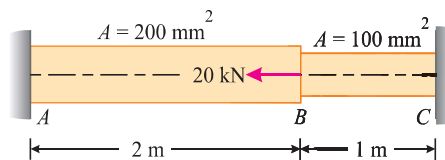

Fig. 4.8
2. A bar ABC fixed at both ends A and C is loaded by an axial load (P) at C. If the distances AB and BC are equal to a and b respectively then find the reactions at the ends A and C.
3. An axial force of 20 kN is applied to a steel bar ABC which is fixed at both ends A and C as shown in Fig. 4.8.